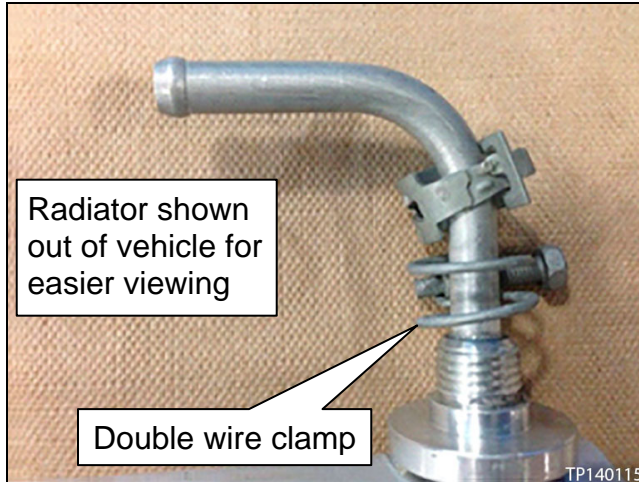
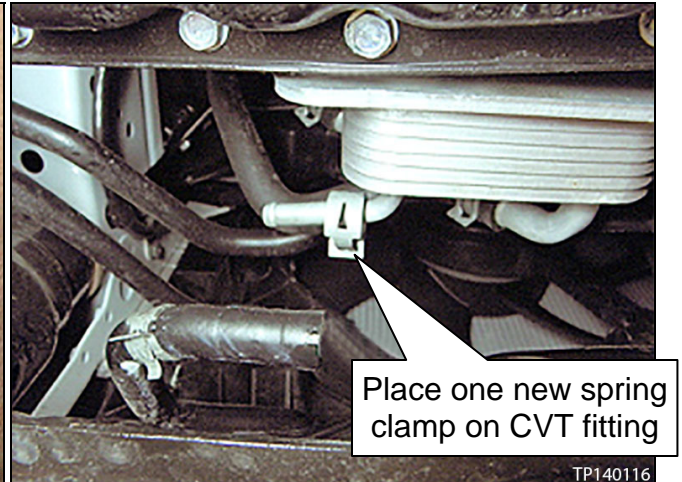

Figure 3
Figure 4
7. Slide two new clamps onto the radiator fitting (Figure 3), and then one new spring clamp onto the CVT fitting (Figure 4).
- Radiator fitting: Slide on the double wire clamp first, followed by a spring clamp (see Figure 3).